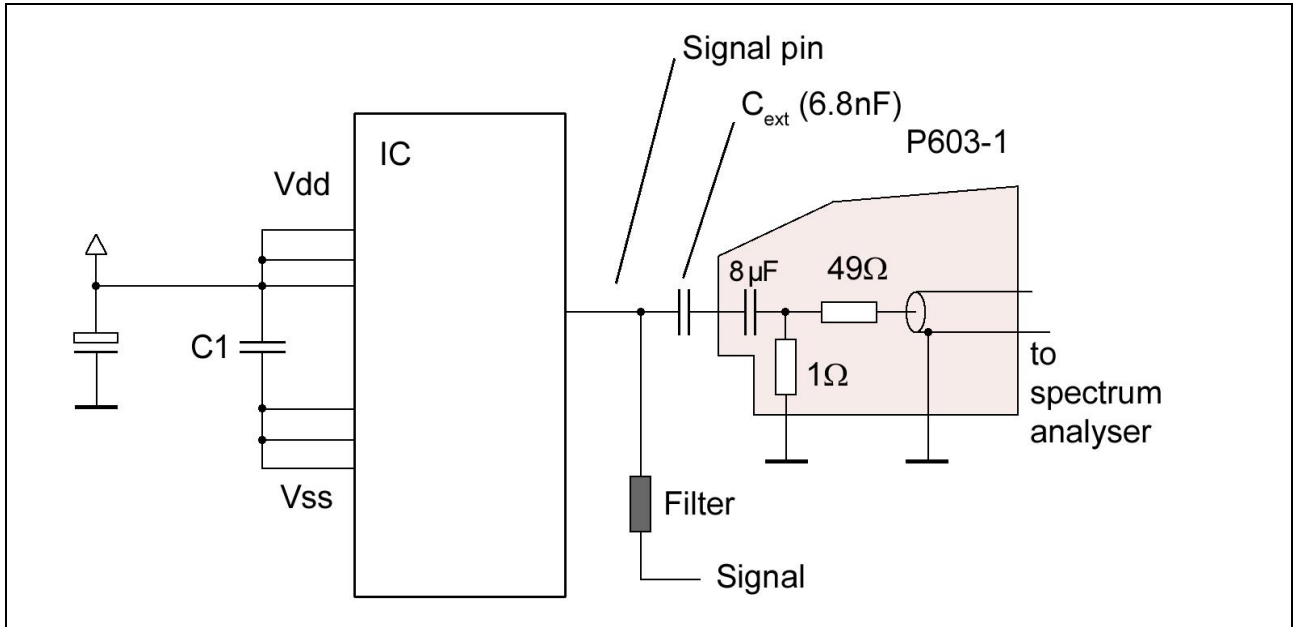

Figure 9: P603, current measurement on a signal pin under function.
5. Current measurement (P603) on a signal pin while this is in operation (with external capacity), **Figure 9**
The external capacitor C_{ext} can reduce the stress on the signal pin caused by the probe's low impedance (1 Ohm) (**Figure 9**) during current measurements on signal pins.